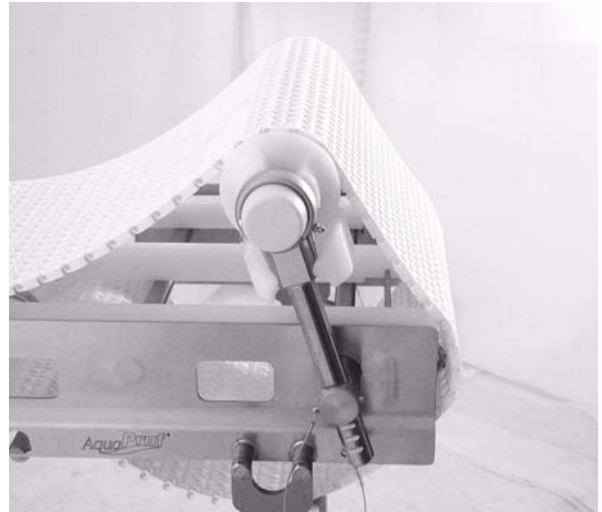

Figure 49
1. Tip up idler tail assembly (Figure 49).